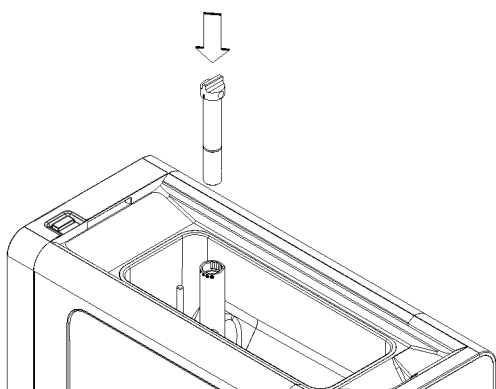

figure 6
**3** Insert the upper part of the mixing pipe into the lower one. (see figure 6)